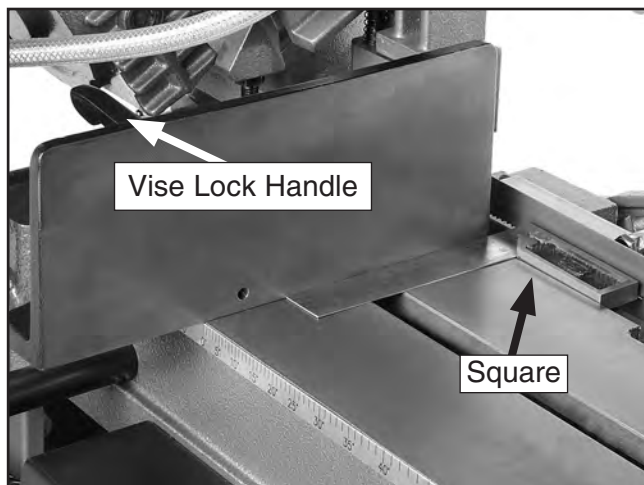

Figure 14. Squaring vise to blade.
1. Check the current vise jaw-to-blade angle with a machinist square (see **Figure 14**).